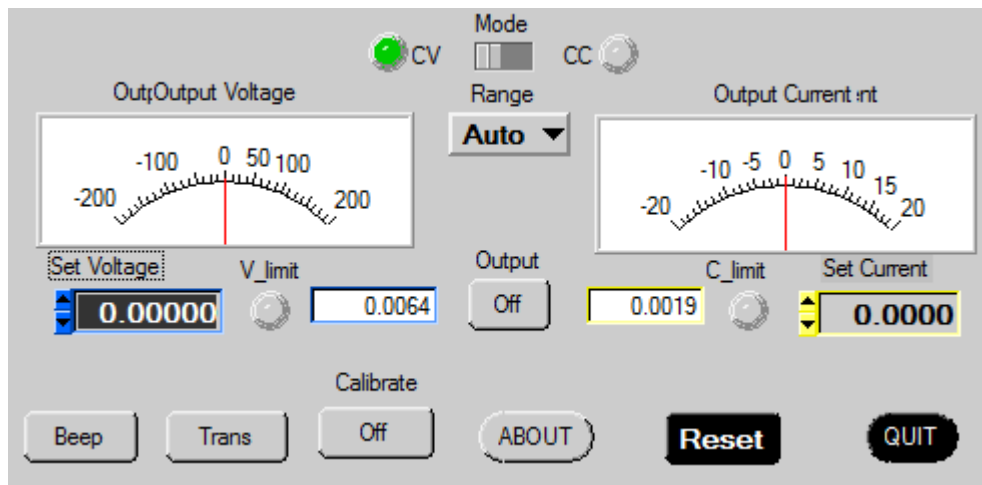

FIGURE 3-2. MAIN PANEL
13. Connect load (see Table 3-3) across the output of the unit and connect DVM across the load as shown in Figure 3-2. Voltage measurements must be converted to Amperes using Ohm's law, $E = IR$. Click **OK** button to close **Connect CALIBRATION RESISTOR** window.
23. To exit Calibration, click on the **Calibration On** button on the main panel (Figure 3-2). This will open a panel that allows the calibration to be saved. Click **SAVE** to save the calibration constants (both voltage and current), or **CANCEL** to return to the old calibration.